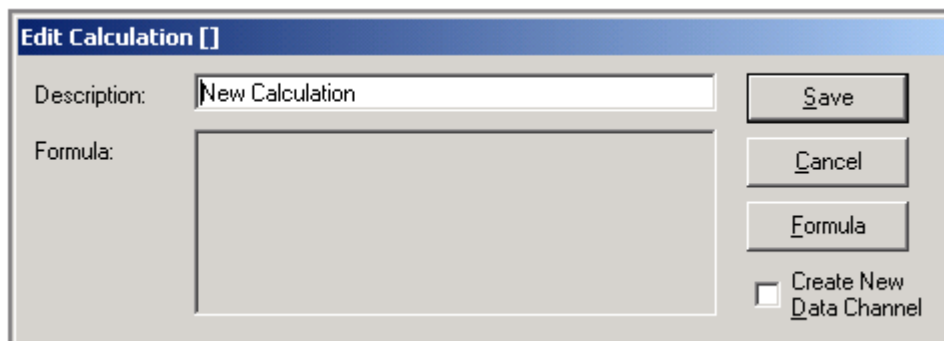

Figure 11 Editing a Calculation
- 1 To create a new calculation, right-click the **Calculation** icon and select **New Calculation**. The **Edit Calculation** window opens (Figure 11).